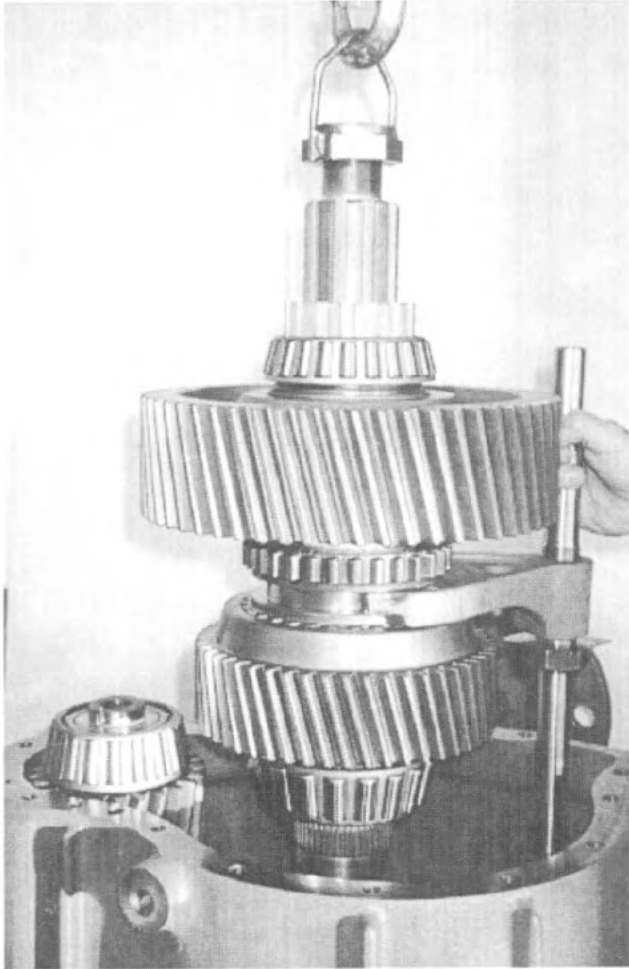

Fig. 28
26. Remove the rear lower output shaft and shifter shaft assembly from the transfer case housing. To prevent damage to the shaft assembly, store the assembly in a secure area. See Fig. 28.